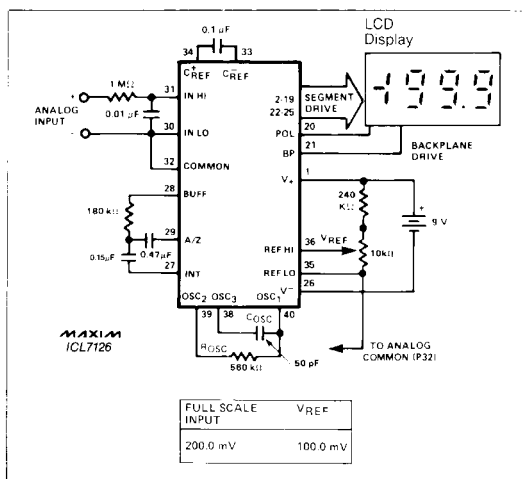

Figure 1. Maxim ICL7126 Typical Operating Circuit
**Note 3:** Unless otherwise noted, specifications apply at  $T_A = 25^\circ C$ ,  $f_{CLOCK} = 16kHz$  and are tested in the circuit of Figure 1.
(V+ = 9V; TA = 25°C; fCLOCK = 16kHz; test circuit - Figure 1; unless noted)
**Note 8:** Test condition is VIN applied between pins IN-HI and IN-LO through a 1MΩ series resistor as shown in Figure 1.
**Note 12:** 1MΩ resistor is removed from circuits in Figure 1.